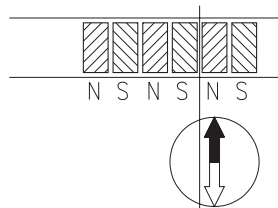

Fig. 13: Determination of the pole position.
- If necessary, use a compass needle to determine the location of the poles on the magnetic strip (fig. 13).